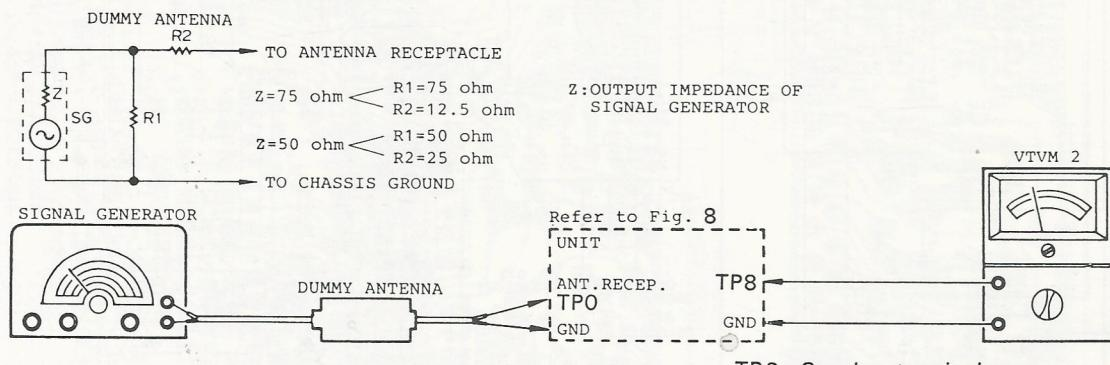

Fig. 11 (EOT-009) TP8: Speaker terminal
(1) Connections Refer to Fig. 11